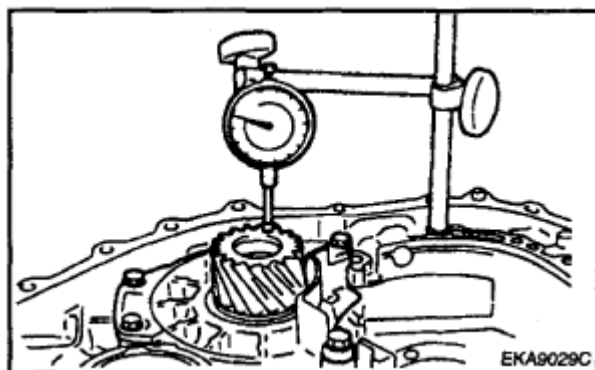

Fig. 88: Measuring Output Shaft End Play
31. Install a dial indicator as shown in **Fig. 88**.